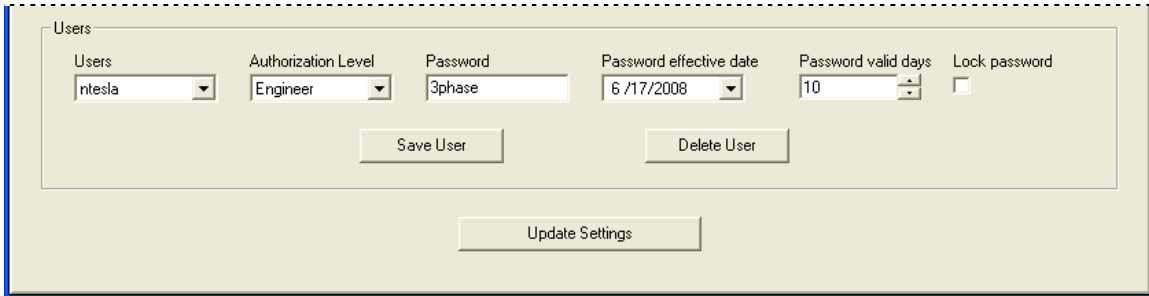

Figure 11 Admin Settings: Users
4. When you click **OK** in the User Name box, the “Authorization Level” defaults to **Operator**. Change the authorization as desired. In Figure 11 the Authorization Level for the new user is changed to **Engineer**.